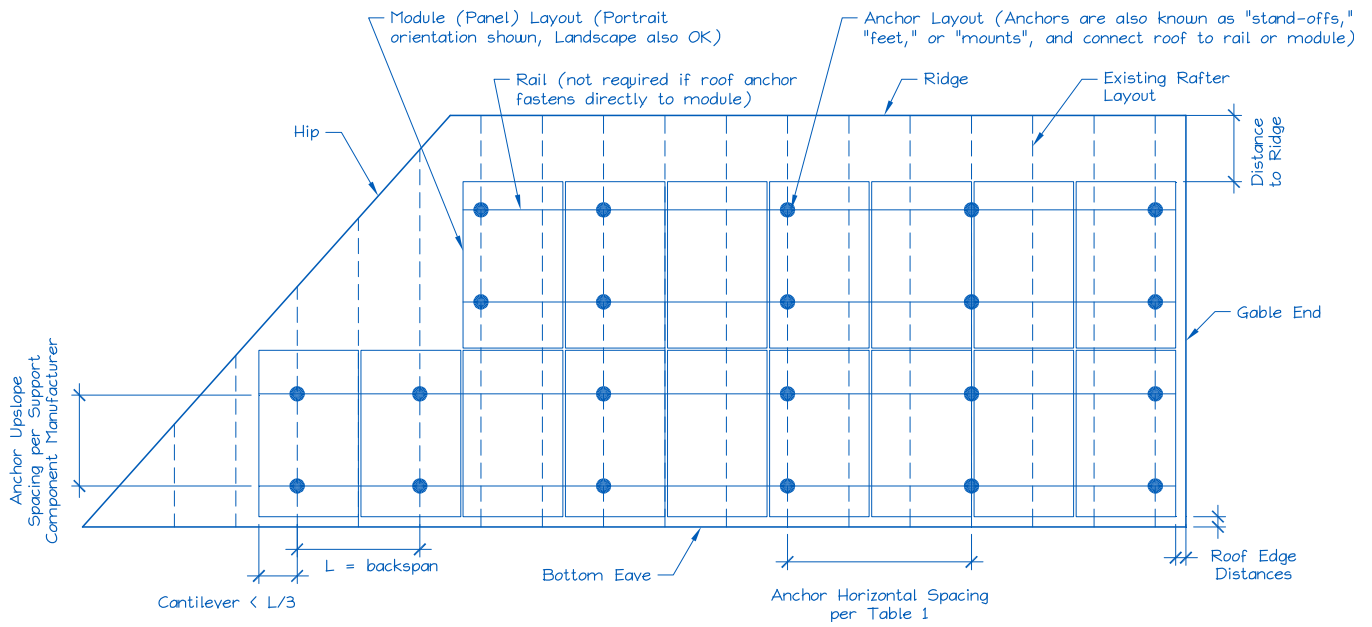

**Figure 1 (above). Roof Visual Structural Review (Contractor's Site Audit) of Existing Conditions.**
- 2) Does the roof structure appear structurally sound, without signs of alterations or significant structural deterioration or sagging, as illustrated in Figure 1?  Y  N